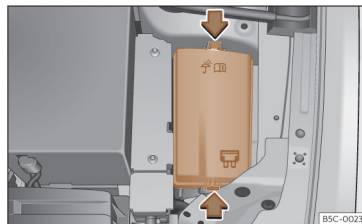

Fig. 52 In the engine compartment: fuse box cover.
- Press the locking tabs to release the fuse box cover»» Fig. 52 .